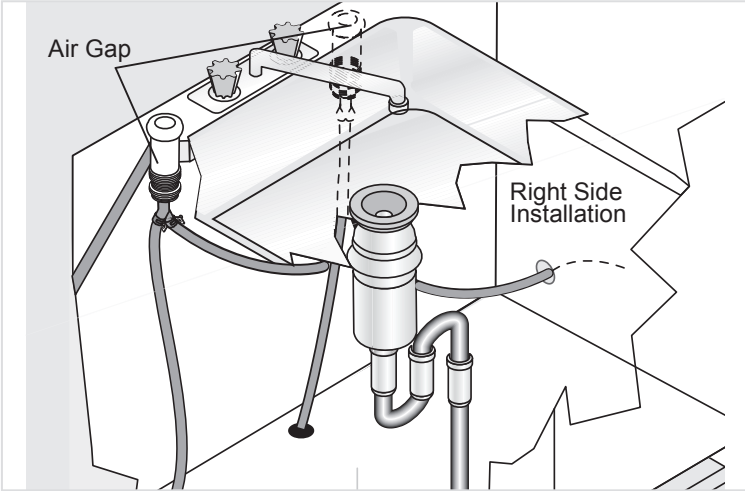

Figure 6
- If you connect to a sink trap, local codes may require you to install an air gap kit, (not included). The drain hose will be routed from dishwasher to air gap inlet as shown in Figure 6. An air gap kit is available from a plumbing supply store.